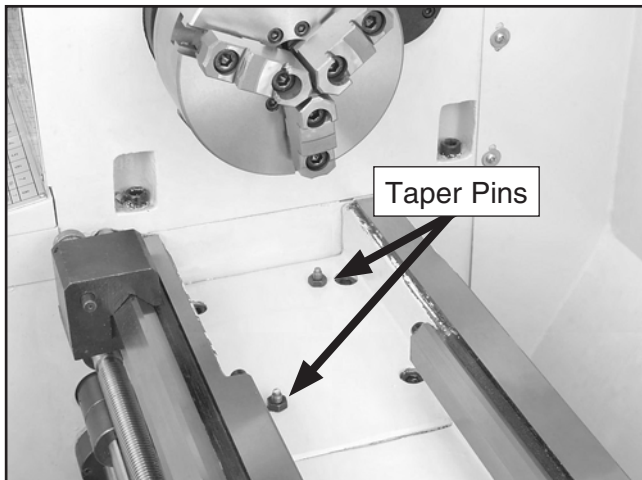

Figure 29. Lathe gap.
1. Find the two taper pin nuts located on the bed of the gap (see **Figure 29**).